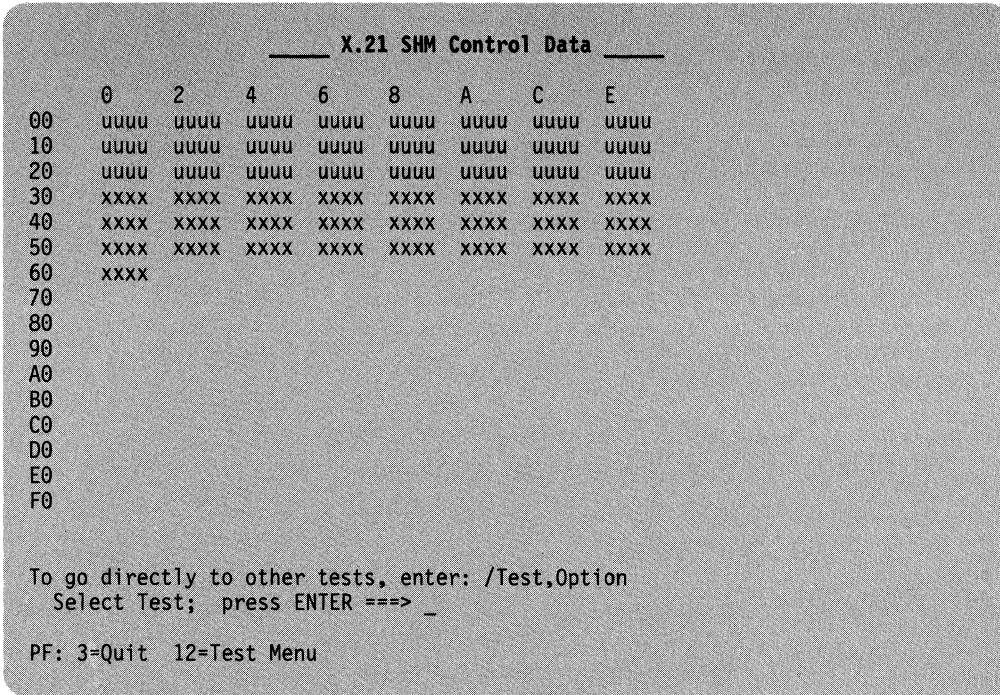

Figure 4-36. Example of an X.21 Short-Hold Mode Host Control Data Panel
**Test 6, Option 3 (X.21):** Displays the host control data on controllers that are configured for X.21. Figure 4-36 shows an example of an X.21 Short-Hold Mode panel.
The configured XID (the one sent to the host at start time) and the last reconnect XID (the last one sent to the host during an SHM session) are displayed. If, for example, a normal X.21 host connection should be established following an SHM connection, the XID displayed by /6,3 would be for the last SHM connection. Bit 6 (SHSI) in the XID sent shows short hold mode is active: it is not sent on with the initial XID; it is sent during a reconnection. This bit is turned on after an SNRM (Set Normal Response Mode) has been received. Table 4-6 on page 4-53 explains the information contained on the X.21 SHM Host Control Data panel shown in Figure 4-36.